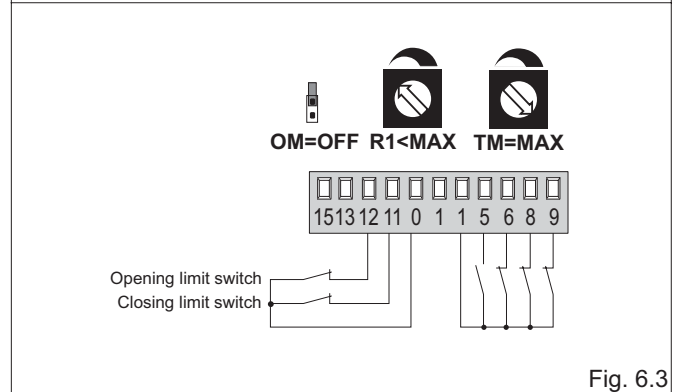

Fig. 6.3
- (Fig. 6.3) Door wing stops against limit switches and reverses motion in the event of obstacle detection.